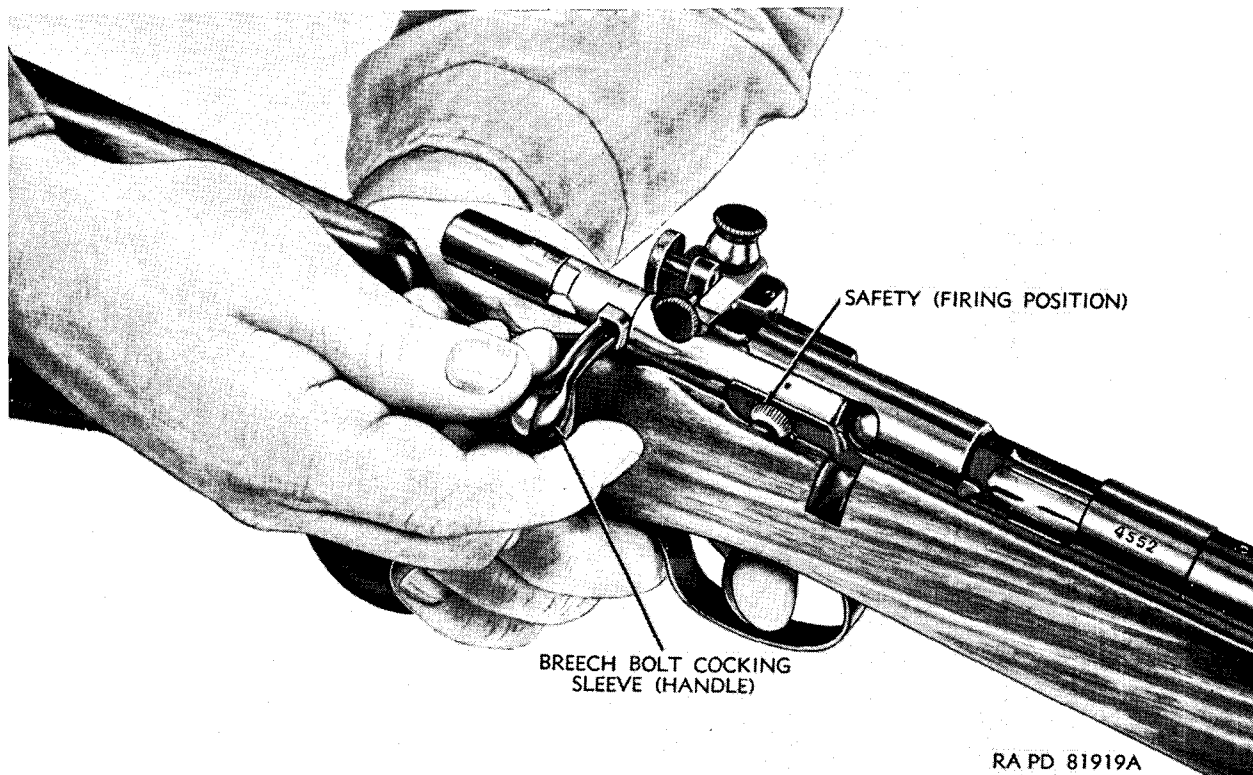

Figure 40. Removing or installing breech bolt assembly (Winchester rifle M75T).
a. Remove Breech Bolt Assembly (fig. 40). With the safety forward (firing position), raise the breech bolt cocking sleeve (handle) and draw the breech bolt back as far as it will go. Depress the trigger and pull the breech bolt backward out of the receiver.
e. Install Breech Bolt Assembly (fig. 40). Slide the breech bolt assembly into the receiver as far as it will go. Move the safety forward (firing position), depress the trigger, and slide the bolt forward until it clears the sear projection of the trigger. Release the trigger, move the safety rearward (safe position); and push the bolt to its extreme forward position. Push the handle of the breech bolt cocking sleeve (handle) down.